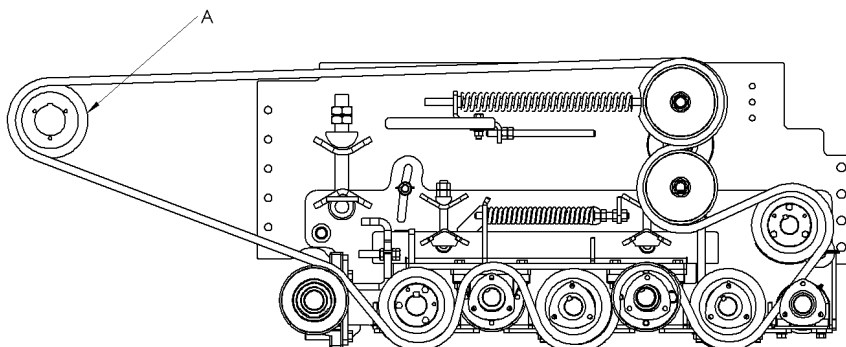

Figure 7-24: Grabroll Speed Adjustment
4. Remove the sheave (A), shown in Figures 7-24, by first removing sheave bolts.
11. Align sheave (A) with the other sheaves and tighten evenly. Be sure the sheaves are aligned with each other after tightening.